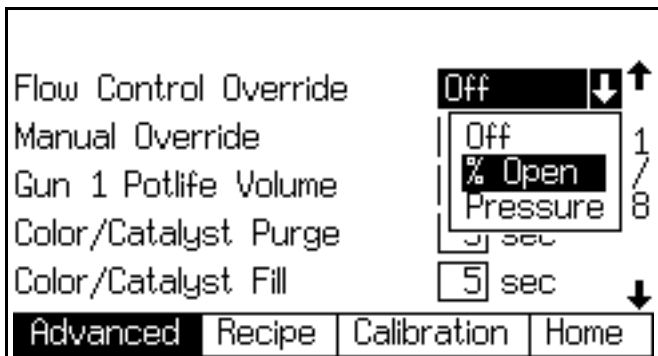
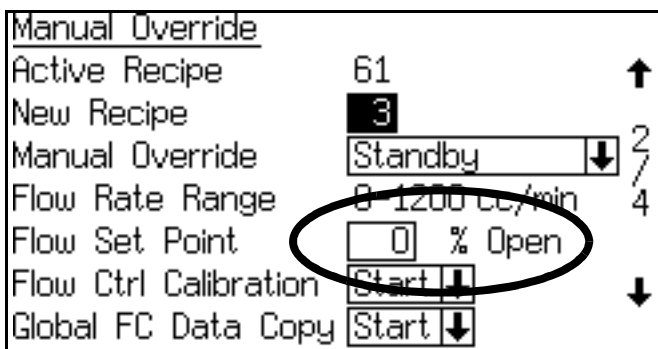

FIG. 79. Flow Control Override Menu
FIG. 80. Flow Set Point as a Percentage
- Set Flow Control Override to % Open. See FIG. 79 and Table 10. On the **Manual Override Screen**, the Flow Set Point field will display as a percentage open (see FIG. 80).